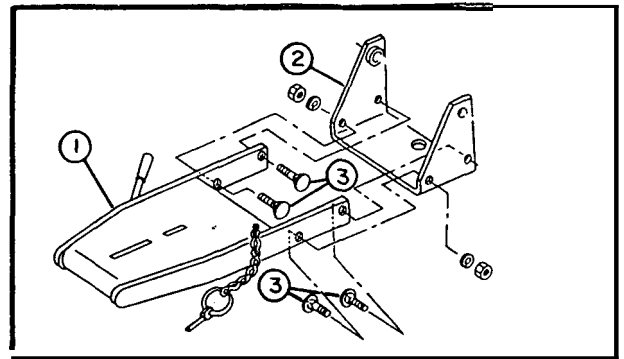

FIGURE 6
- a) Install male hitch (fig.6, item 1) in the pivot bracket (fig.6, item 2). Use four 7/16" x 1 1/4" bolts (fig.6, item 3), lockwashers and nuts. Install the bolts from the inside as shown, and tighten them securely.